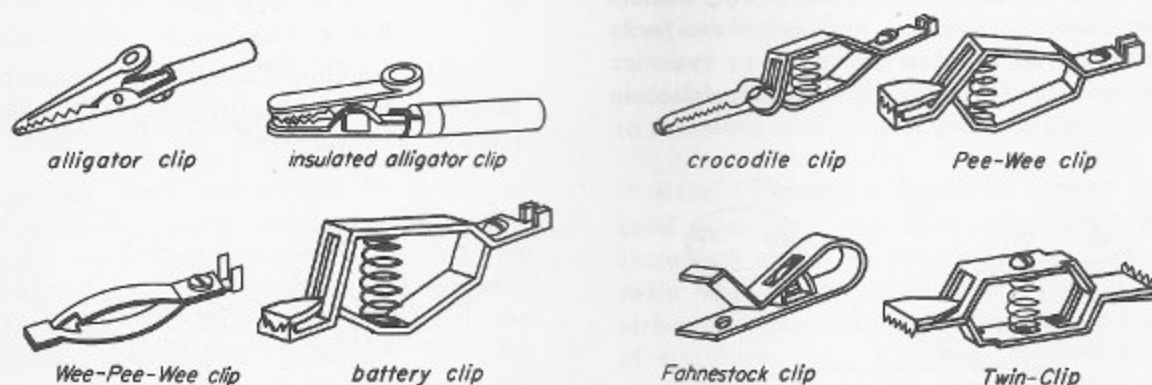

Fig. 3-2
Clips are used to make temporary connections to circuits being tested. They are usually fastened to connecting wires or to test probes. Some clips can be fastened to the wire by a set screw in the shank, while others must be soldered to the wire. Figure 3-2 shows some of the many kinds of clips available. The *alligator clip* and the *crocodile clip* are used while making tests in tight places. Their narrow jaws make contact without touching nearby parts. The *Pee-wee clip* is for clipping on to wire, studs, chassis, and so on. The *Twin-Clip* is very handy for making connections between two wires or leads. The *battery clip* is used to make contact with storage-battery terminals. *Fahnestock clips* are sometimes used on antenna lead-in strips and to make antenna and ground connections to radios. They are not as good as screw connections because they loosen easily and make poor contact. Fahnestock clips are normally sold by the gross (144). The other clips are sold singly or in lots of 10 or 12.